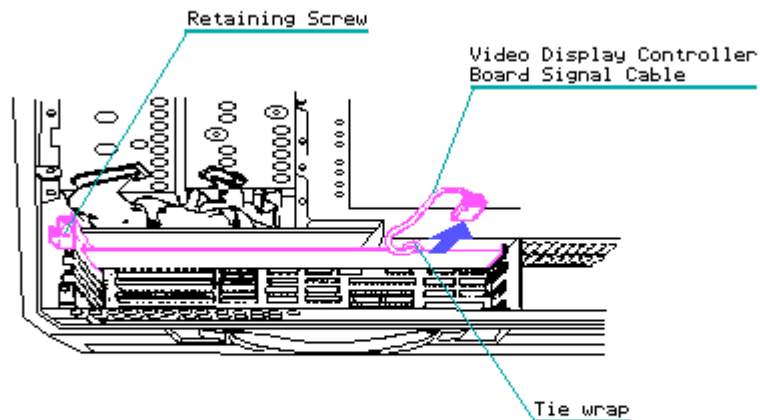

Figure 7.9-4. Removing the Video Display Controller Board Retaining Screw and Signal Cable
3. Remove the retaining screw that secures the video display controller board and disconnects the video display signal cable (Figure 7.9-4).